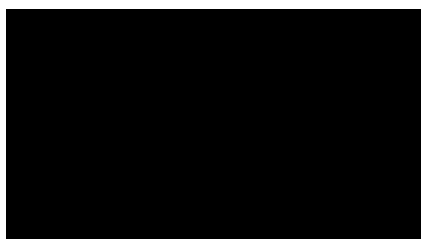
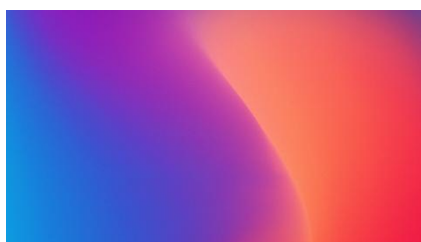

Fig.3.1
Fig.3.4
(1) Configuring background through the setting page, there are 8 options according to the different themes: when dark theme is shown in Fig.3.1~Fig.3.4, and light theme is shown in Fig.3.5~3.8. Only select the themes, it is default to display the pure colour background as shown as Fig.3.1 or Fig.3.5.
(2) Inserting new background through the USB storage device, specific steps are as follows: